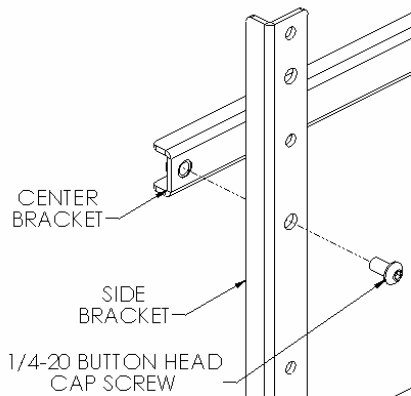
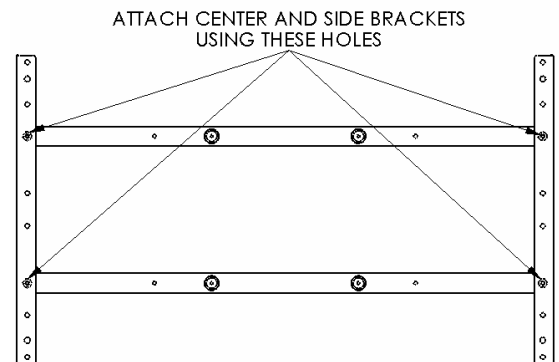

Figure 6
Figure 7
4. **Side Bracket Assembly:** Attach center brackets to side brackets using the 1/4-20 screws (see Figure 6 & Figure 7).